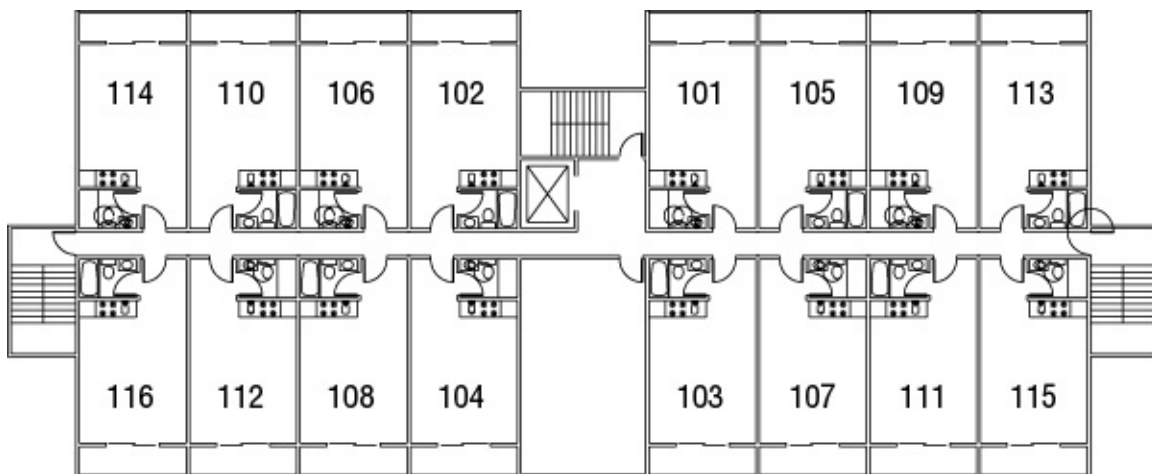

FIGURE 12.8 Apartment numbers for one floor of the studio apartment building
4. Do this for each room, using Figure 12.8 as a reference for assigning room numbers.
5. Go back and edit the door number attribute for the S-DOOR blocks. Give each door the same number as the room number with which it's associated. See Figure 12.8 for the room numbers.